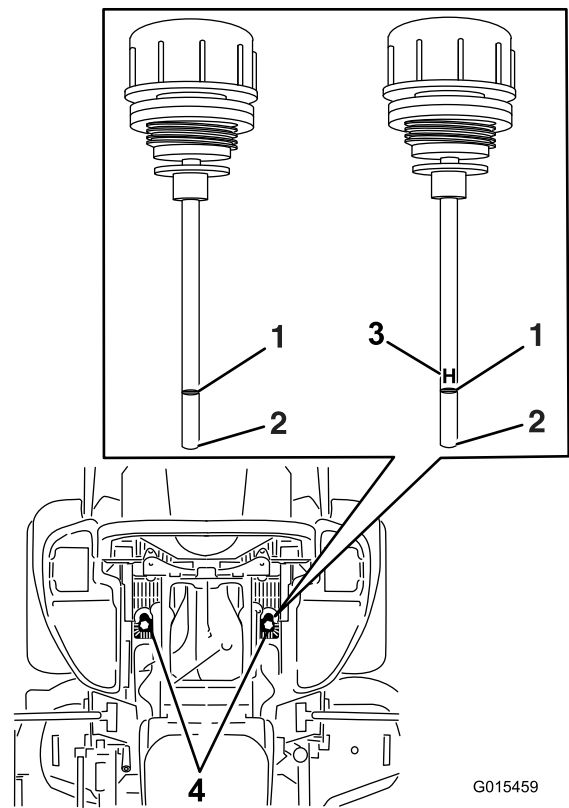

Figure 90
6. Clean the area around the dipsticks of hydraulic system reservoirs (Figure 90).
7. Remove one dipstick from the hydraulic reservoir (Figure 90).
9. Remove the dipstick and look at the end (Figure 90). If the oil level is at the add mark, slowly pour only enough oil into the hydraulic reservoir to raise the level to the full or **H** line.